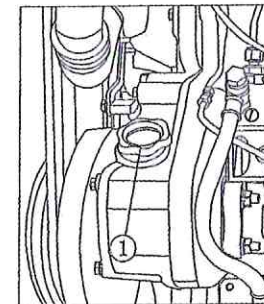

Figure 2-1
- c. Open the oil filler cap 1 (as shown in figure 2-1) to fill oil after filtration.